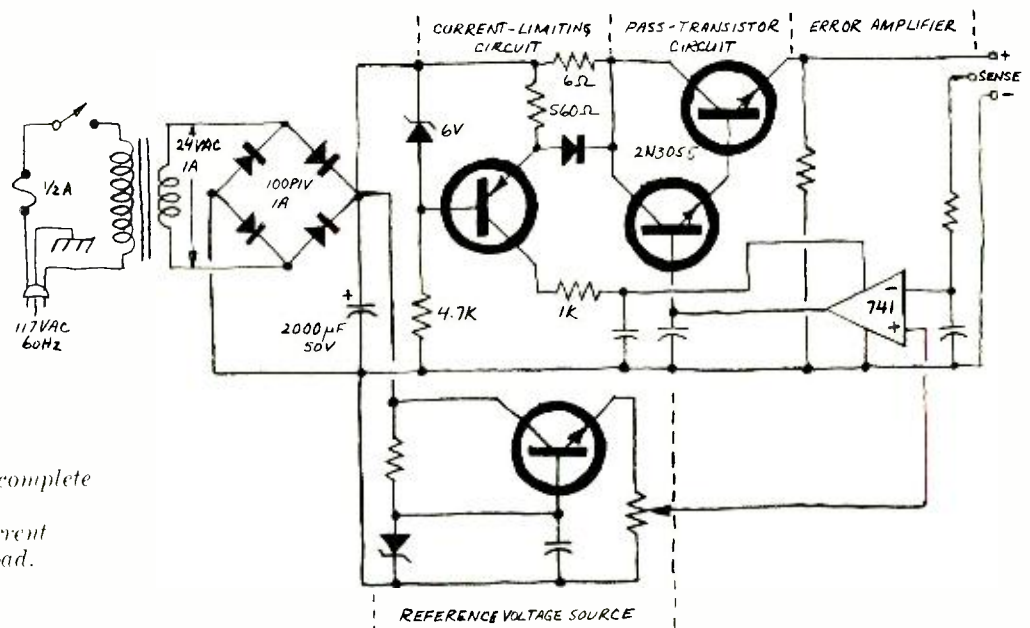

Fig. 10. Schematic of a complete "deluxe" power supply. This design includes current limiting to protect the load.
**Current Limiting.** The schematic of a "deluxe" power supply is shown in Fig. 10. This design has built into it a means for limiting the current to the load. To design current limiting into your power supply, you simply select the component values that will deliver the current to the load limited to the maximum safe current. ♦